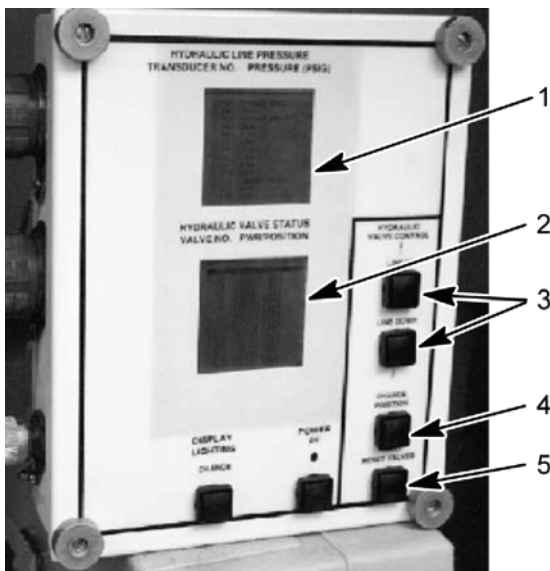

Figure 32. HDC Control Box
- Using LINE UP or LINE DOWN button (Figure 32, item 3), select V15 on the HDC display (Figure 32, item 2). Open V15 on the HDC display (Figure 32, item 2) by selecting the CHANGE POSITION button (Figure 32, item 4) on the HDC control box.
- Reset all HDC solenoid valves by selecting the RESET VALVES button (Figure 32, item 5) on the HDC control box.
- Using LINE UP or LINE DOWN button (Figure 32, item 3), select V16 on the HDC display (Figure 32, item 2). Close V16 on the HDC display (Figure 32, item 2) by selecting the CHANGE POSITION button (Figure 32, item 4) on the HDC control box.
- With left-hand SUSPENSION CONTROL lever still in the RAISE position, and observing transducer T-1 hydraulic pressure on the HDC display (Figure 32, item 1), turn adjusting screw (Figure 33, item 2) clockwise to increase pressure or counterclockwise to decrease pressure until desired pressure is indicated.
- Using LINE UP or LINE DOWN button (Figure 32, item 3), select V16 on the HDC display (Figure 32, item 2). Open V16 on the HDC display (Figure 32, item 2) by selecting the CHANGE POSITION button (Figure 32, item 4) on the HDC control box.